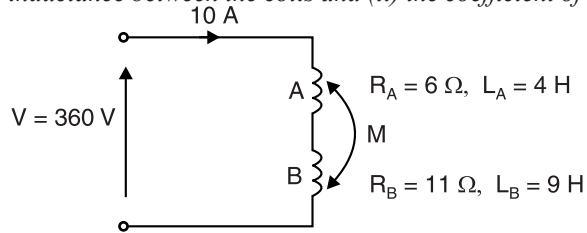

Fig. 9.21
**Solution.** Fig. 9.21 shows the conditions of the problem.